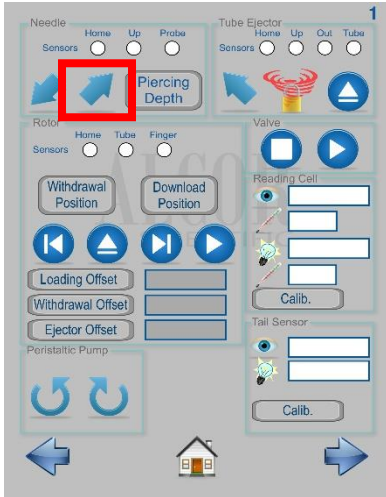

Figure 5
5. Press the “Needle Up” icon highlighted in red in Figure 5 This will cause the Needle to pierce the patient sample tube.